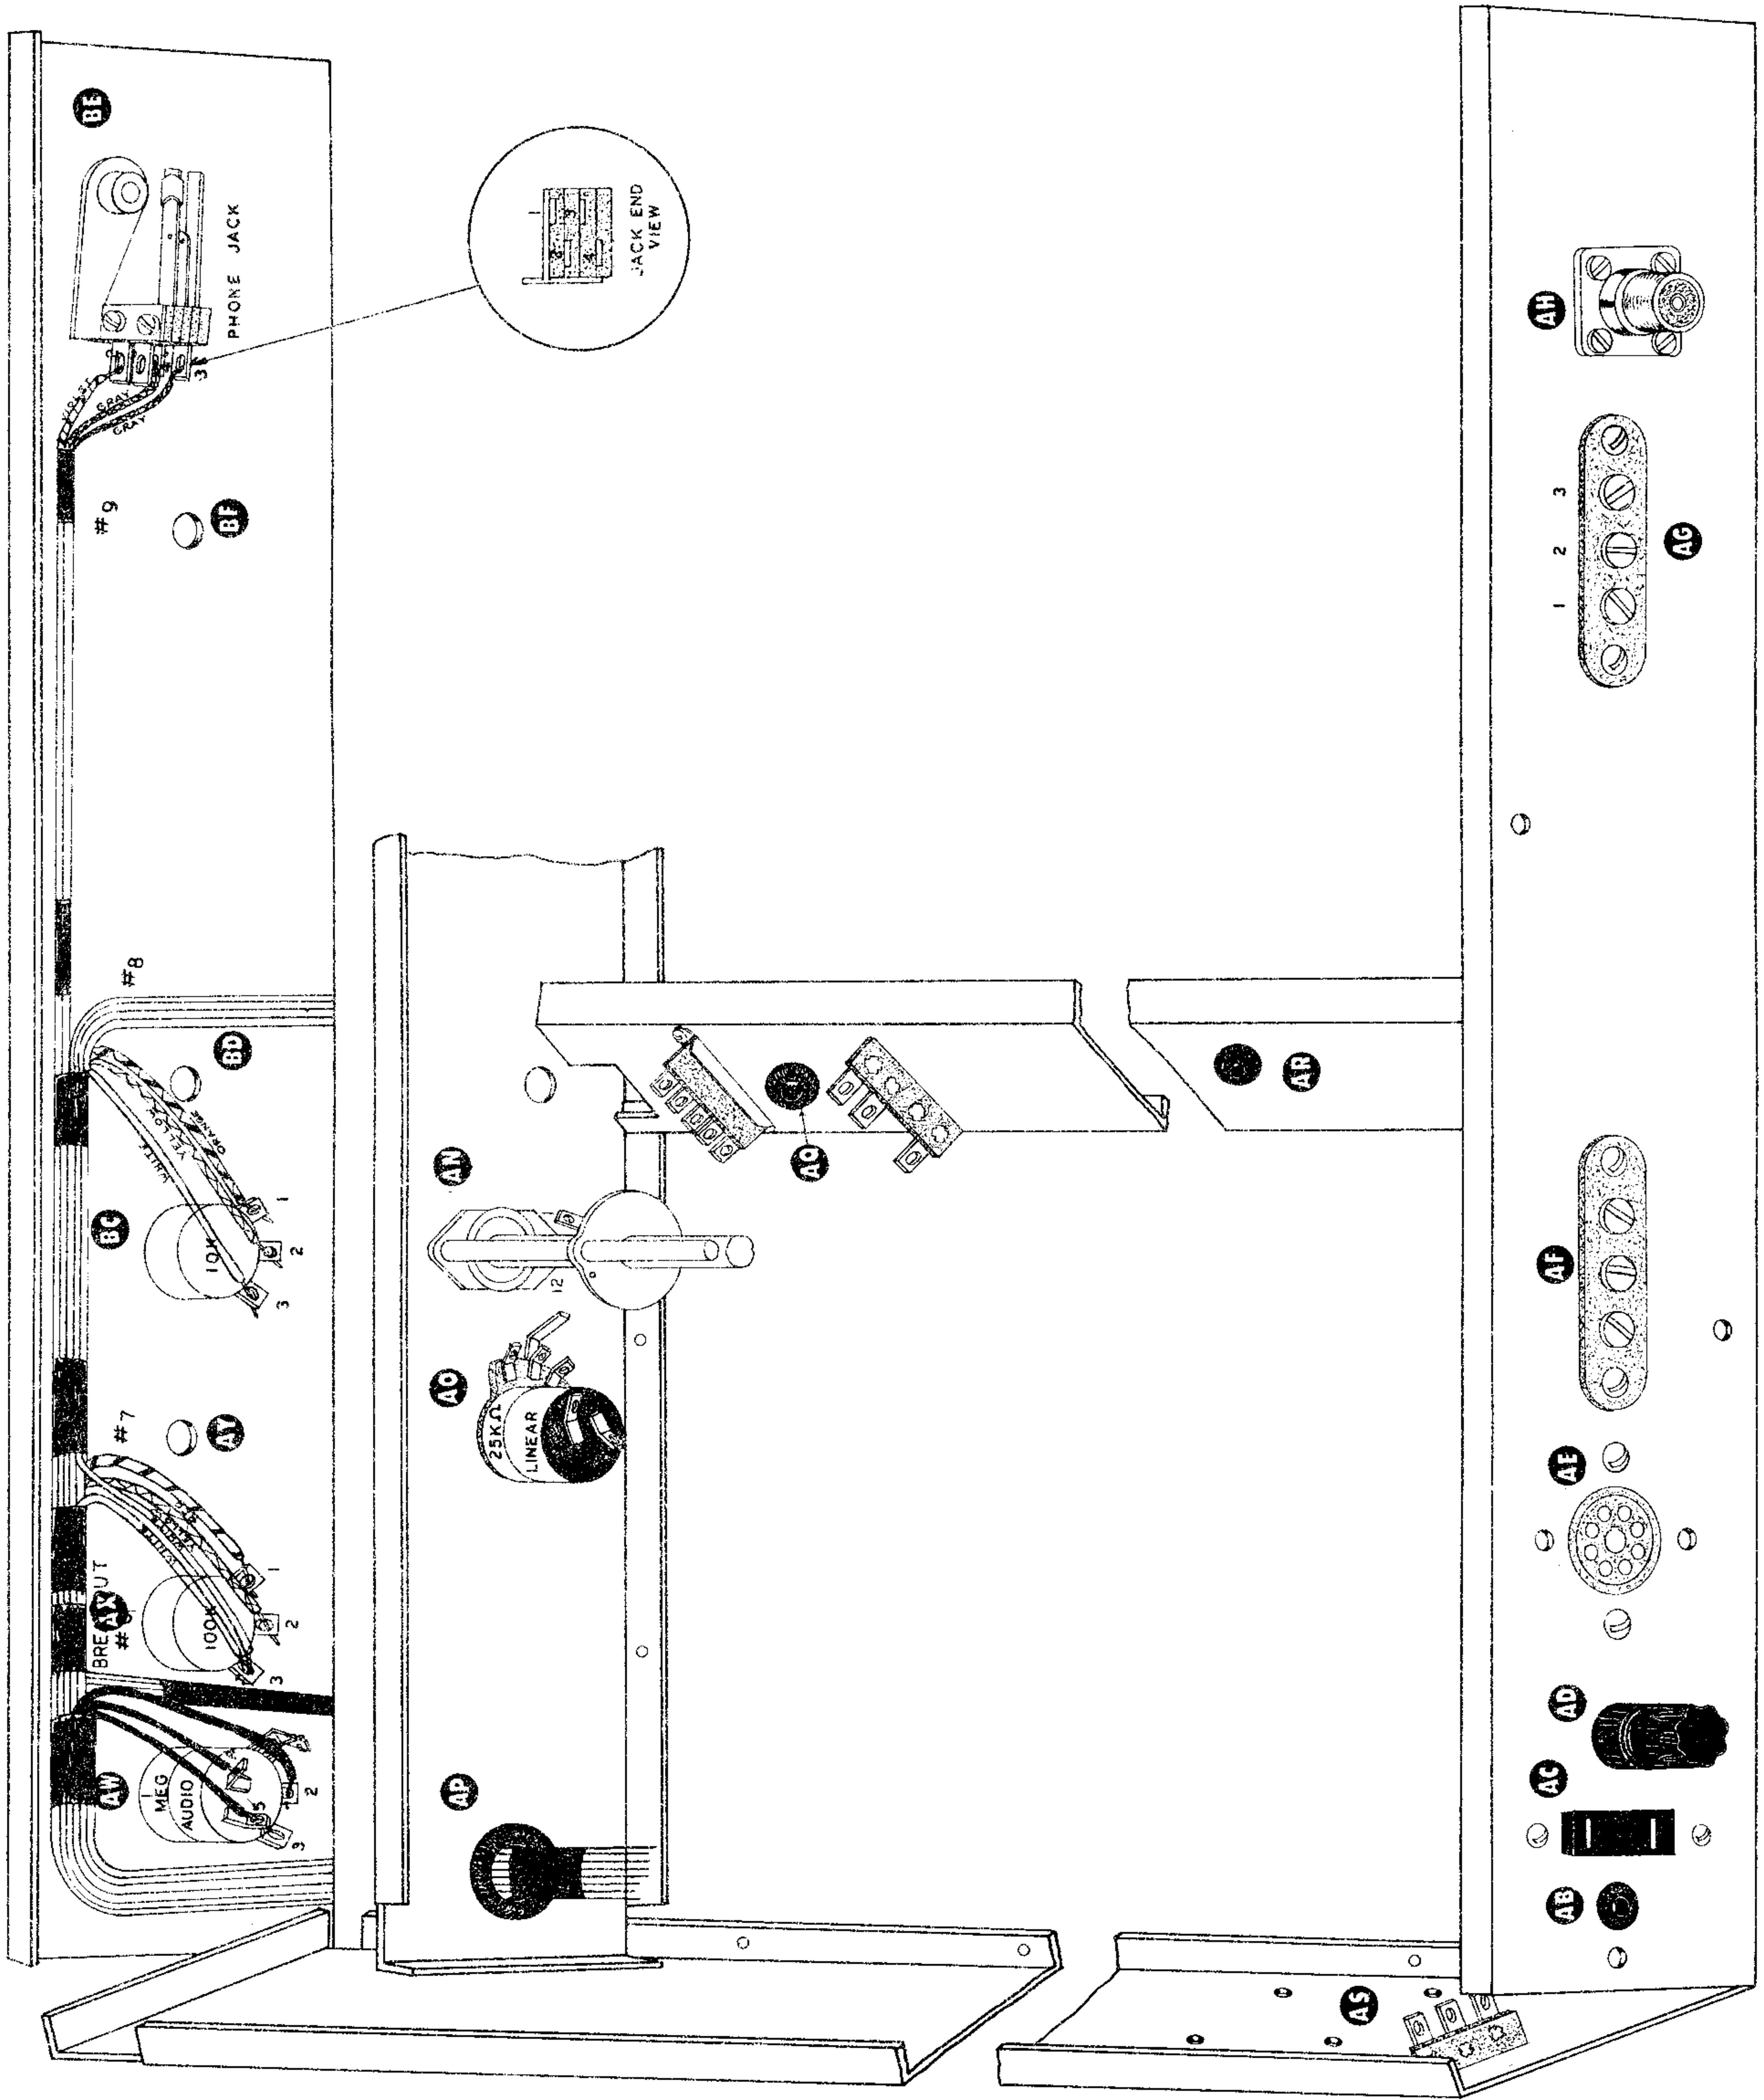

Figure 5
- () Place the main frame on the work bench with the bottom up. The bottom of the frame is readily identified by the triangular metal braces spot welded in each of the four corners. Orient the frame so that the metal partition is running lengthwise of the unit as shown in Figure 5.
- () In hole AC, place the 110 volt 2 prong AC socket; fasten in place with 6-32 hardware. Refer to Figure 5.
- () Install the 3-lug terminal strip (use 6-32 hardware) in hole AF. This strip is installed from the outside as shown in Figure 5 and Pictorial 3.